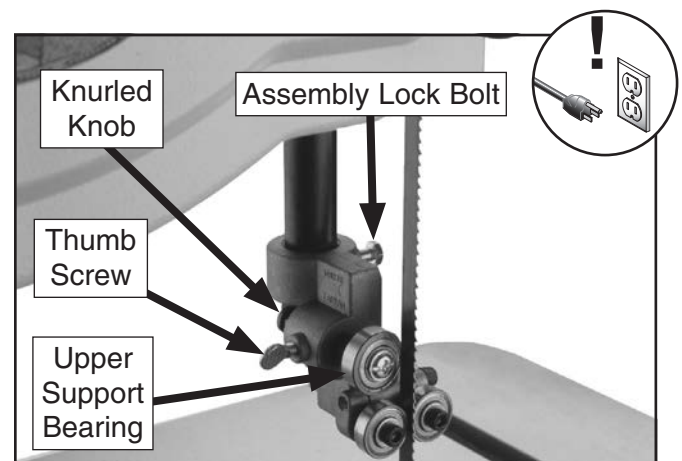

Figure 22. Support bearing controls.
2. Familiarize yourself with support bearing controls shown in **Figure 22**.
3. Loosen guide assembly lock bolt (see **Figure 22**) so that support bearing can be rotated perpendicular to blade in next step.
5. Tighten assembly lock bolt (see **Figure 22** on **Page 24**).
6. Loosen thumb screw (see **Figure 22** on **Page 24**) on support bearing adjustment shaft.